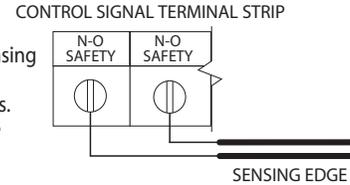

Figure 9B
- 6B) **Monitored** sensing edge connects to (ODC STB) terminals on main board through a Miller Edge Interface Module as shown in **Fig. 9B**.